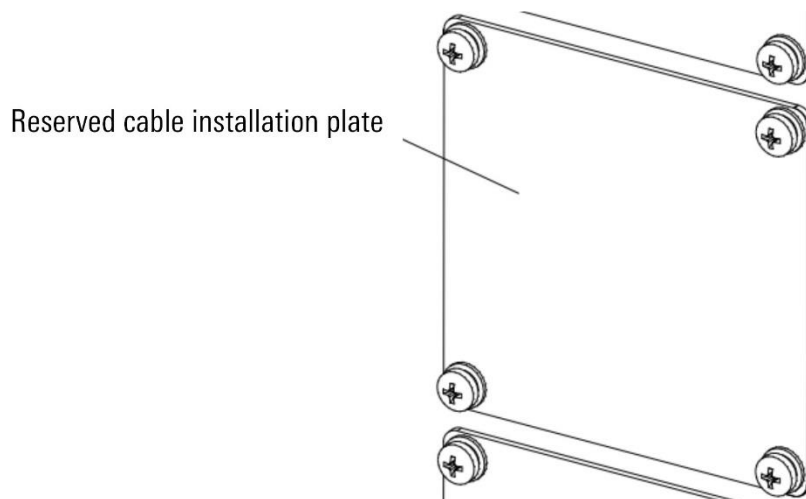
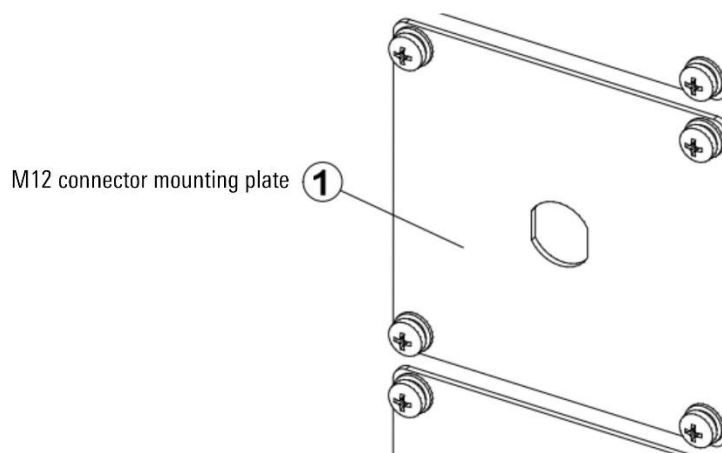

Figure 18-37 Reserved cable installation plate
Figure 18-38 M12 connector mounting plate
Step1. Use a Phillips screwdriver to remove the original reserved cable installation plate (reference Figure 18-37), and remove the M12 connector installation plate (reference Figure 18-38) installed on the cabinet.